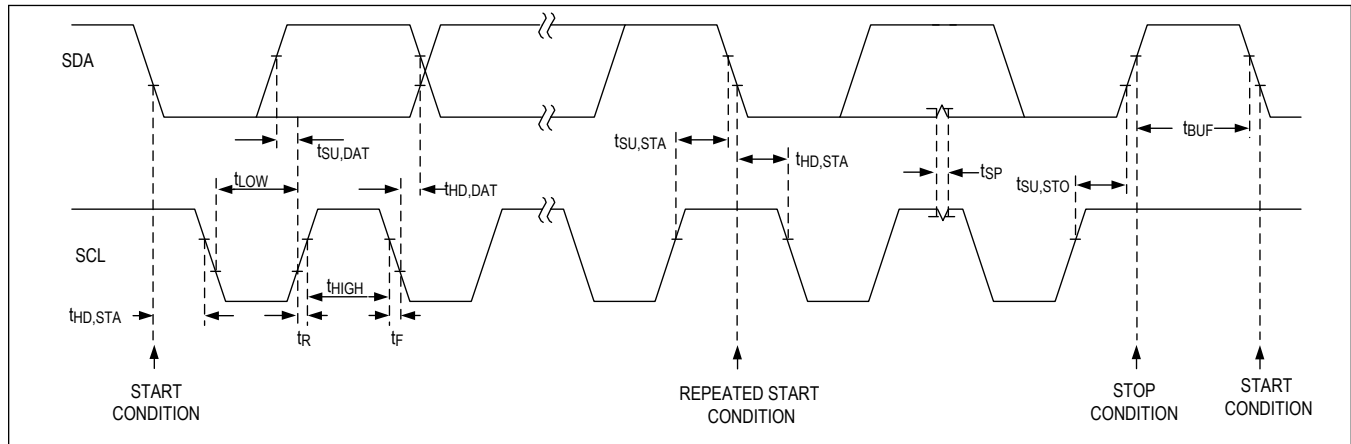

Figure 33. I^2C Interface Timing Diagram
The device features an I²C-compatible, 2-wire serial interface consisting of a serial data line (SDA) and a serial clock line (SCL). SDA and SCL facilitate communication between the device and the master at clock rates up to 1MHz. Figure 33 shows the 2-wire interface timing diagram. The master generates SCL and initiates data transfer on the bus. The master device writes data to the device by transmitting the proper slave address followed by two register address bytes (most significant byte first) and then the data word. Each transmit sequence is framed by a START (S) or REPEATED START (Sr) condition and a STOP (P) condition. Each word transmitted to the device is 8-bits long and is followed by an acknowledge clock pulse. A master reading data from the device transmits the proper slave address followed by a series of nine SCL pulses. The device transmits data on SDA in sync with the master-generated SCL pulses. The master